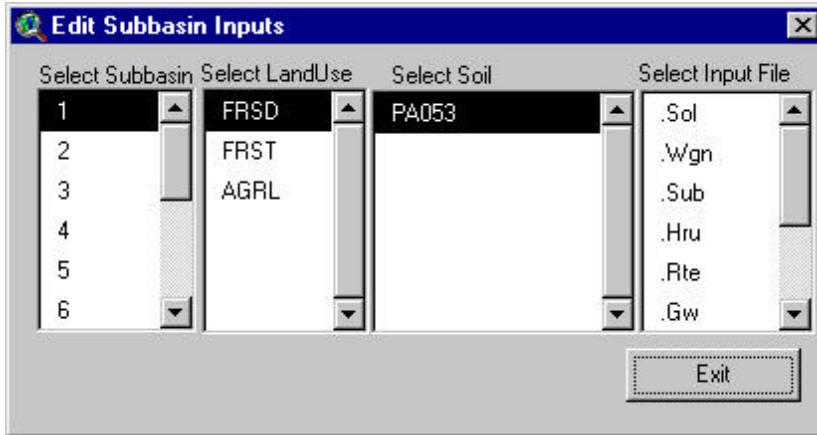

Figure 12.3
The Edit Subbasins Inputs dialog box is displayed (Figure 12.3).
- iv. Once you have made all your selections, click **OK**. The interface will save all the settings changes and return to the Edit Subbasins Inputs dialog box (Figure 12.3).
Once you have made all selections, click **OK**. The interface will save all the changes and return to the Edit Subbasins Inputs dialog box (Figure 12.3).